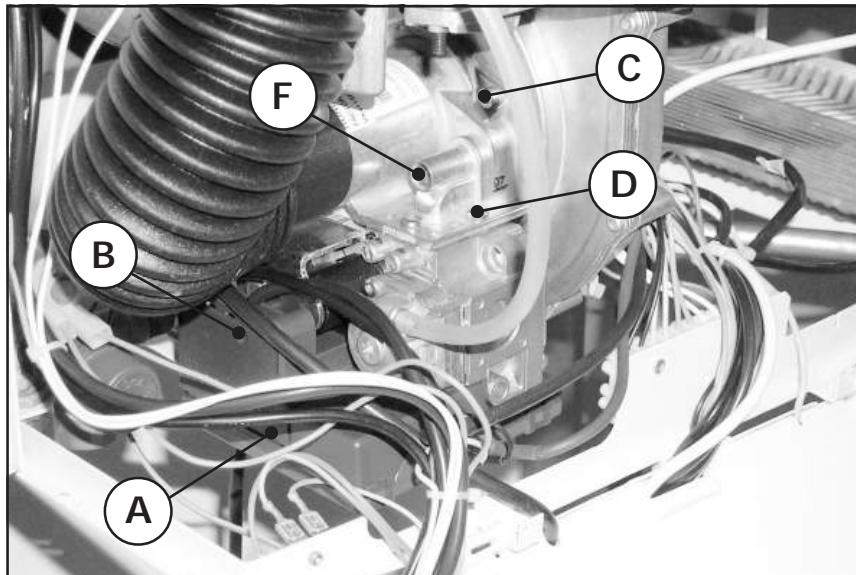

Fig. 19
If the appliance has to be used with a gas other than the one it has been set for, it is necessary to insert (or remove) the restrictor between the gas valve and the air inlet Venturi, and operate on the regulation screw F (fig. 19) placed on the Venturi unit to regulate the CO2 content in the flue gas to the nominal value (within +/- 0.1%) described in the following table::
- 15 If necessary, slowly operate on the regulation screw F (fig.19) placed on the Venturi to bring the CO2 content to the nominal value (within +/- 0.1%) expected in the table for the correspondent gas type. It is recommended to operate only on the screw F and not on the gas valve: this operation could compromise the correct functioning of the appliance